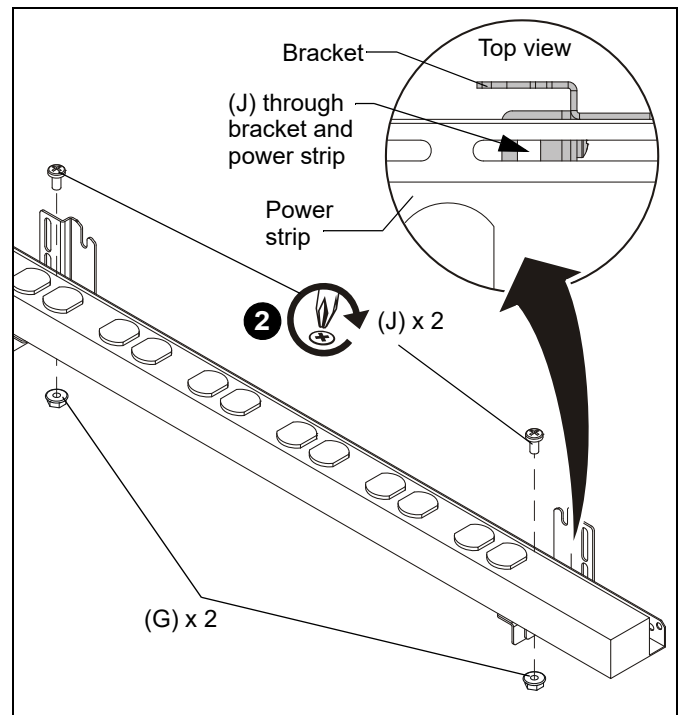

Figure 6
- OPTIONAL (attaching power strip):** Attach power strip (not included) to bracket assemblies through slots in retaining brackets and in power strip using two 1/4-20 x 1/2" Phillips head screws (J) and two hex nuts with flange (G). (See Figure 6)